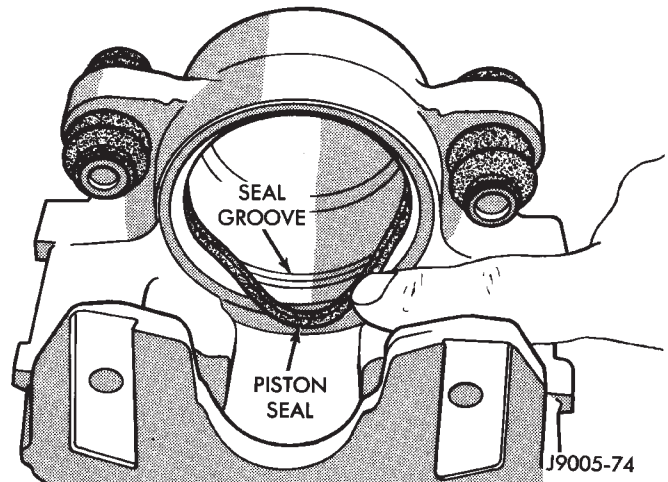

Fig. 71 Piston Seal Installation
- (4) Install new piston seal into seal groove with finger (Fig. 71).